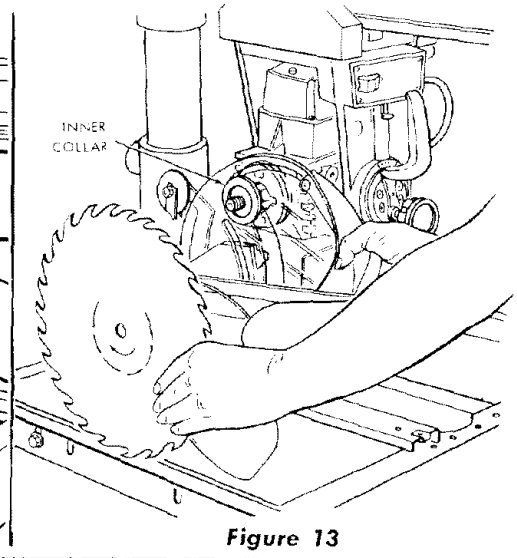

Figure 13
- e. Grasp the saw blade, slide it off the shaft and out of the guard. (See figure 13.) Remove the inner collar and guard. Place the guard and blade out of work area.